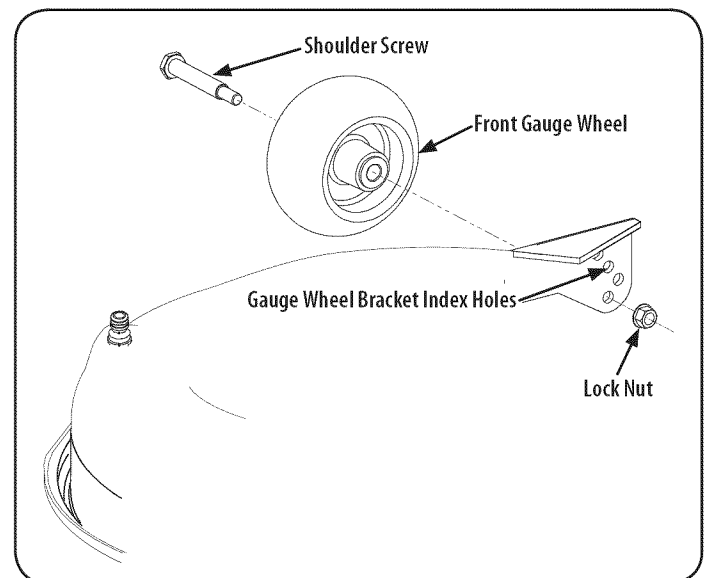

Figure 8
2. Remove the flange lock nut securing the front gauge wheel shoulder bolt to the deck. Remove the gauge wheel and shoulder bolt. Refer to Figure 8.